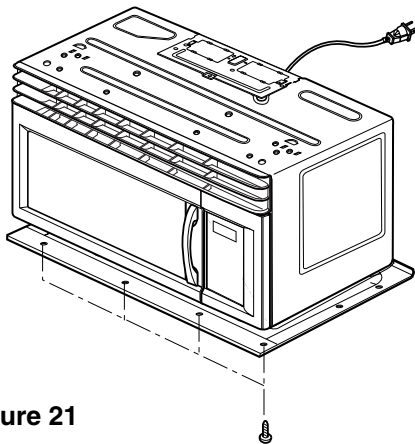
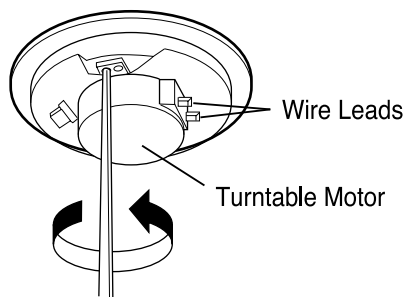

Figure 21
Figure 22
- (3) Remove the base plate by removing eight screws securing it to the oven cavity. (Figure 21)
- (4) Disconnect the leadwire from the turntable motor terminals.
- (5) Remove the two screws securing the turntable motor to the oven cavity assembly. (Figure 22)